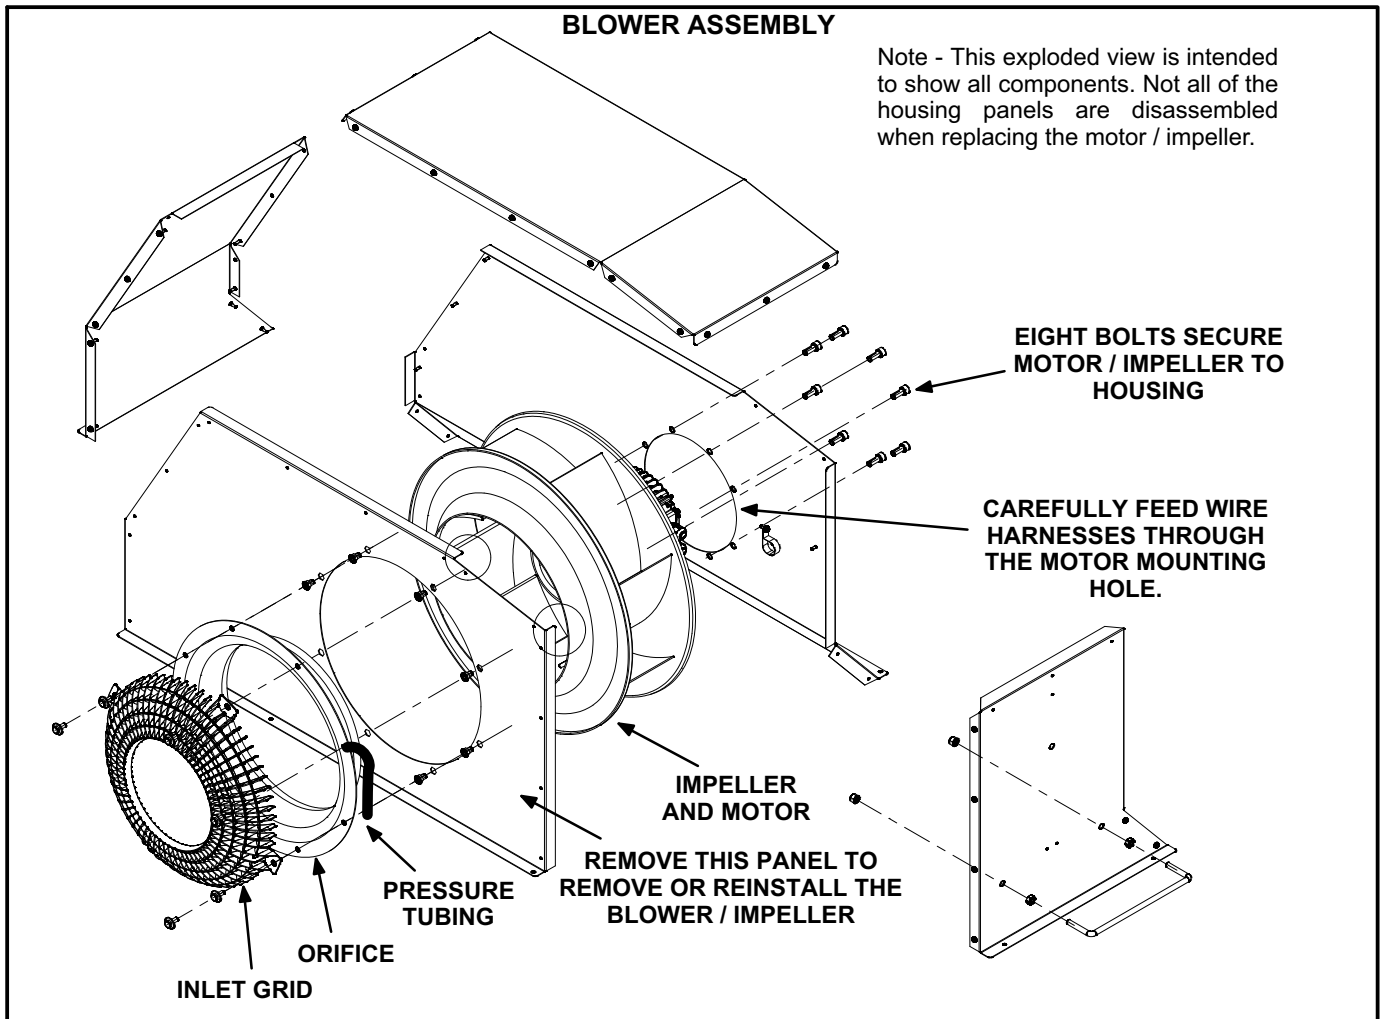

FIGURE 7
- 12- Carefully remove the inlet grill, orifice with tubing attached, and the side of the housing shown in figure 7.